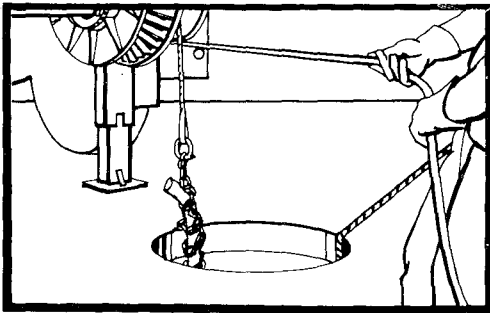
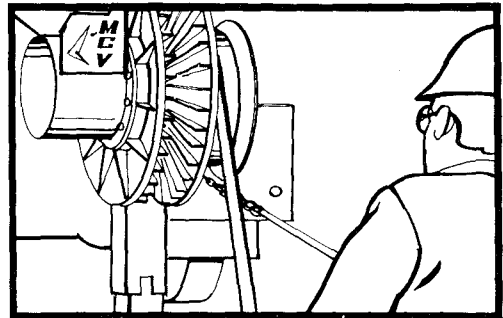

Fig. 11—Holding Tension on Pulling Line
Fig. 12—Wrapping Cable Onto Capstan
4.12 While a craft person holds tension on the free end of the line, the operator moves the POWER HEAD VALVE control lever to the "forward" position to take up slack and apply a strain. At this point, stop the pull and check for proper alignment. Make any necessary adjustments and then continue to pull by gradually applying hydraulic pressure while maintaining tension on the free end of the pulling line (Fig. 11). Pull the butt end of the cable clear of the manhole and onto the capstan for about one-half of a turn (Fig. 12). Stop the pull.